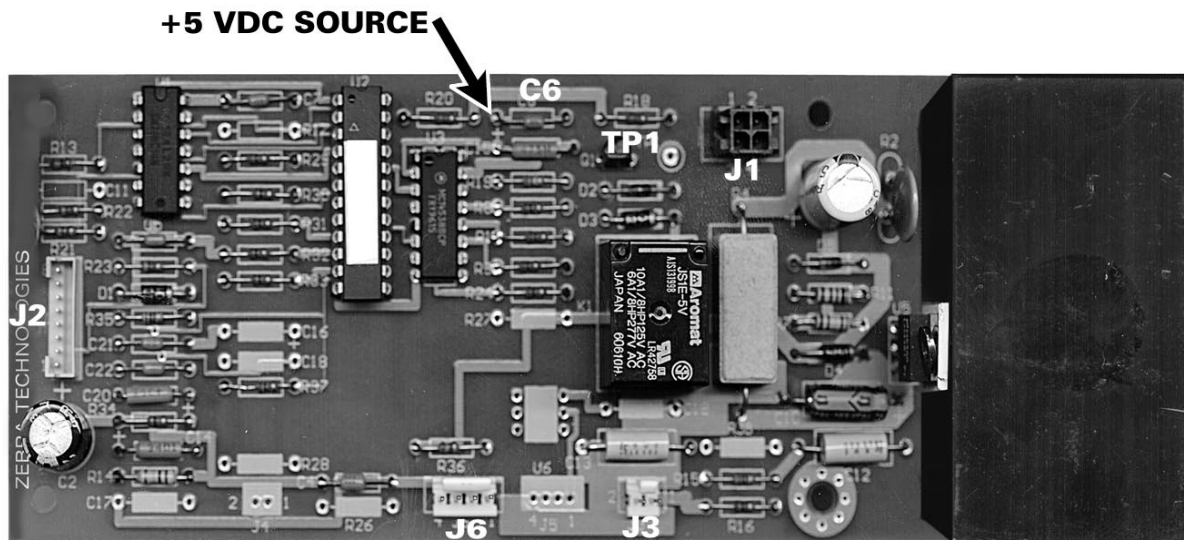

Figure 5.23 Cutter Circuit Board
1. Refer to Figure 5.23. Attach the power cable to J1 on the Cutter Circuit Board.
2. Refer to Figure 5.23. Attach the data cable to J2 on the Cutter Circuit Board.
3. Locate the four (4) standoffs on the printer frame where the Cutter Board will be mounted.
10. Refer to Figure 5.23. Plug the Cutter Sensor wires into the Cutter OPTO Connector, J6, on the Cutter Circuit Board.
4. Refer to Figure 5.23. Attach a test clip at one end of a jumper cable to the lead on the left end of Capacitor C6 (+5 VDC SOURCE) on the Cutter Board.